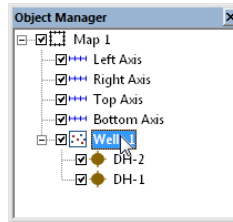

Figure 1.186 – Well 1 selecting
1. Click on the *Wells 1* map layer, fig. 1.186, in the **Object Manager**.